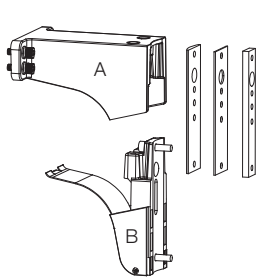
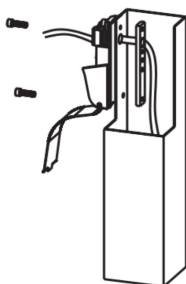
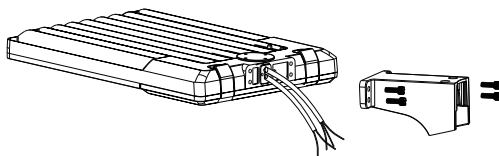

Fig. 1
Fig. 2
Fig. 3
1. Drill two (2) 10mm holes into the surface that the luminaire is being attached to.
2. Slide Part B out of the fixed mount assembly and affix it to the pole with two (2) 8mm Allen bolts.
**NOTE:** If the pole is round, you must remove the inner round silicone gasket. (Fig. 1 and Fig. 2)
3. Remove and discard the ratchet arm by loosening the two (2) 8mm bolts that connect the mount to the bottom of the luminaire.
4. Route the wire leads through the Fixed Mount Part A and attach the luminaire to the Mount with the four (4) 8mm Allen bolts. (Fig. 3)